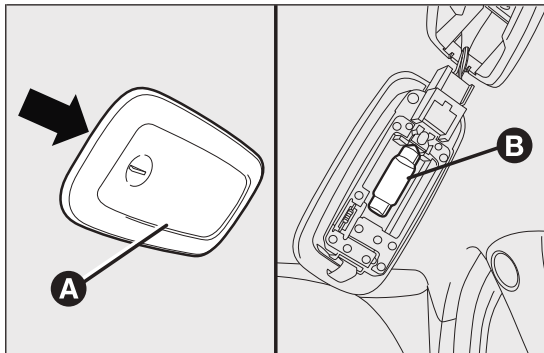

fig. 158
- operate in the point shown by the arrow and remove roof light A fig. 158;